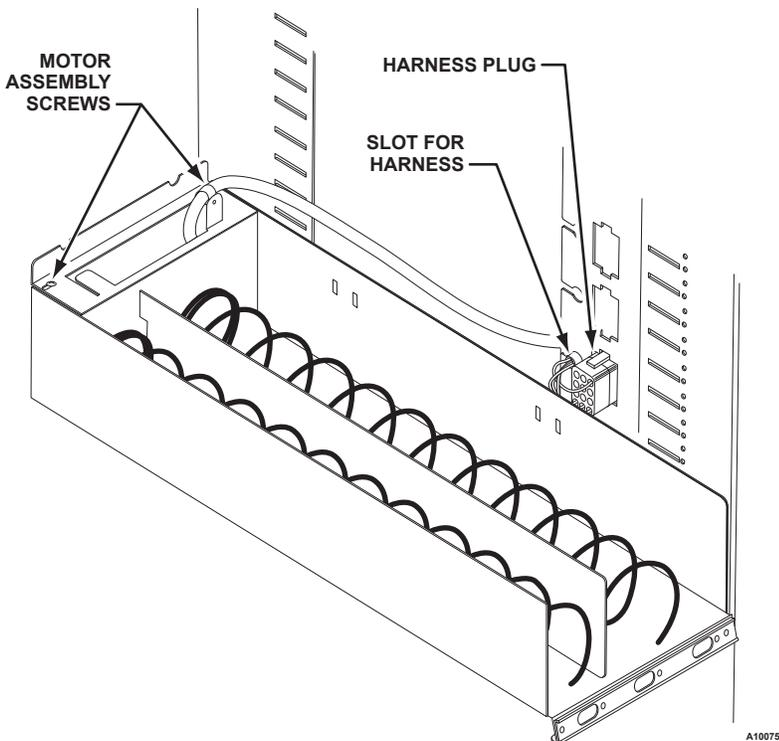

FIGURE 4a. GF12 TRAY HARNESS CONNECTION
2. □ Remove the two screws from the top of the motor assembly. See Figure 4a.
7. □ Reinsert the two screws into the top of the motor assembly. See Figure 4a.
2. □ Remove motor assembly as described in Retiming GF12. See Figure 4a.